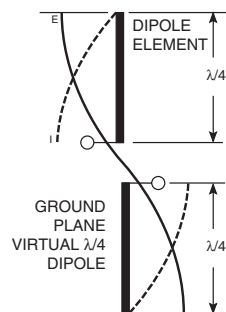

Figure 51: Dipole Antenna
4. In many antenna designs, particularly $\frac{1}{4}$ -wave whips, the ground plane acts as a counterpoise, forming, in essence, a $\frac{1}{2}$ -wave dipole (Figure 51). For this reason, adequate ground plane area is essential. The ground plane can be a metal case or ground-fill areas on a circuit board. Ideally, it should have a surface area less than or equal to the overall length of the $\frac{1}{4}$ -wave radiating element. This is often not practical due to size and configuration constraints. In these instances, a designer must make the best use of the area available to create as much ground